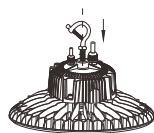

Figure 1
- 1.Please screw the lifting ring into the high bay light fixture, then tighten firmly.(Figure 1)